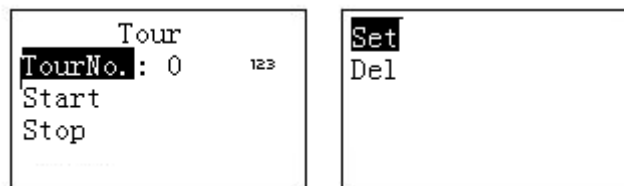

Figure 4-7
a) On the keyboard click **【TOUR】** button, the interface is shown as below. See Figure 4-7.